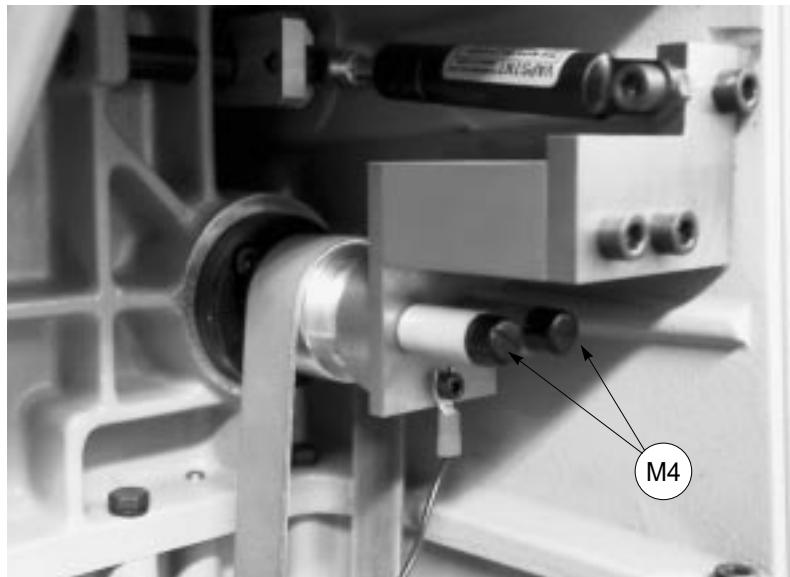

Fig. 153
- 2) unscrew the two brush caps (M4) (fig. 153), remove and fit two new brushes.